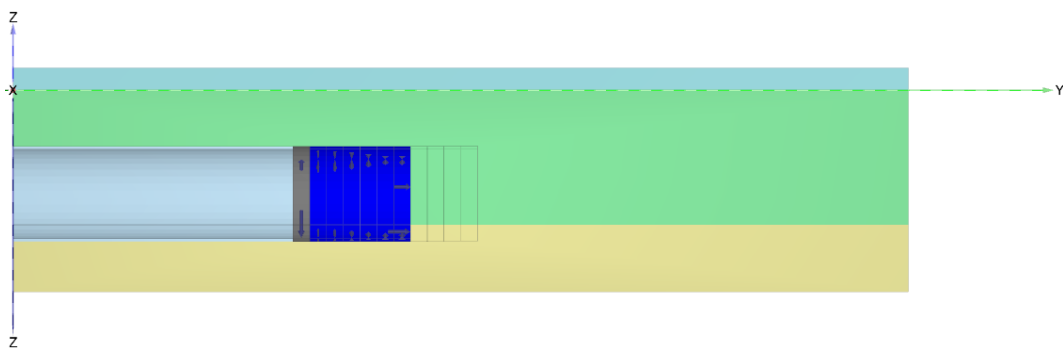

Figure 84: Advancement tunnel after the first 25m
2. In the **Model explorer** expand *Tunnels* and then expand *Tunnel_1*. Scroll down until the option **Advancement step** and set it to 7 in order to simulate the advancement of the first 25 m. Notice that the final lining is automatically activated (see Figure 84 (on page 109)).